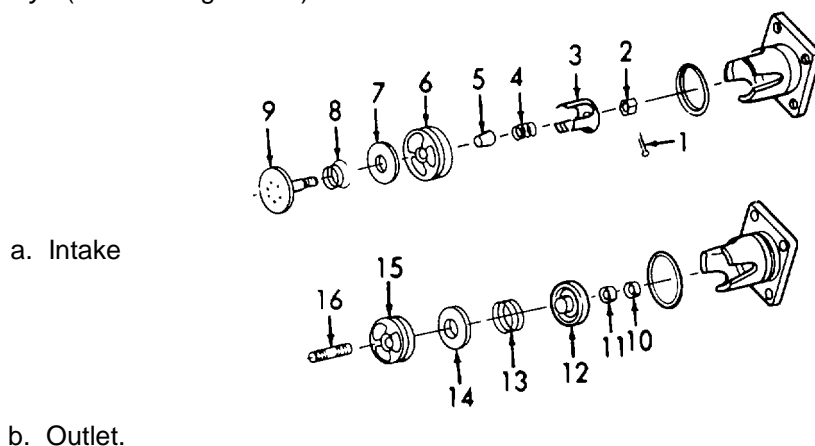

Figure 4-6. Valve Assemblies, Assembly.
e. *Assembly.* (Refer to Figure 4-6).